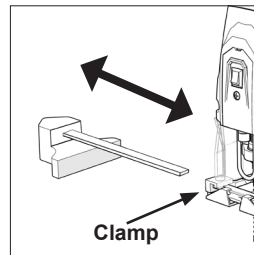

Fig 11
- Locate the clamp in the required service position on either the right or left hand side of the machines footplate just ahead of the blade. (Fig. 11).
- Slide the arm of the Parallel Edge Guide through the clamp and through the two (2) rectangular slots in the footplate.